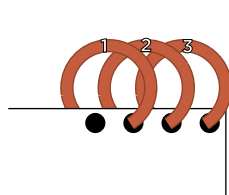

FIG. 1
3. Choose the corner of the tool that will best fit the size jump rings you want to use. Attach the 3 open base-row jump rings to the tool, leaving the innermost hole empty, and then close them (**FIG. 1**). These are the 3 starter jump rings (first 3 jump rings of the base row).